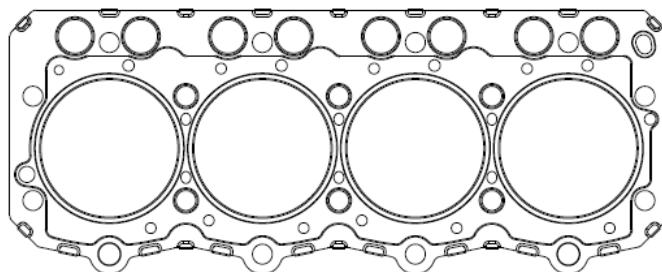

Figure 4-20 Cylinder Head Gasket
(2) Install the cylinder head gasket
- ①Each cylinder head gasket can only be used for once, if returned for repair, it must be replaced with a new one as is shown in Figure 4-20.
- ②Wipe out the inner wall of cylinder liner, and apply clean lubricant, wipe out the plane on engine block, and put the cylinder head gasket in place according to corresponding cylinder pin holes;
- ③ Check if cylinder head gaskets are correctly assembled.